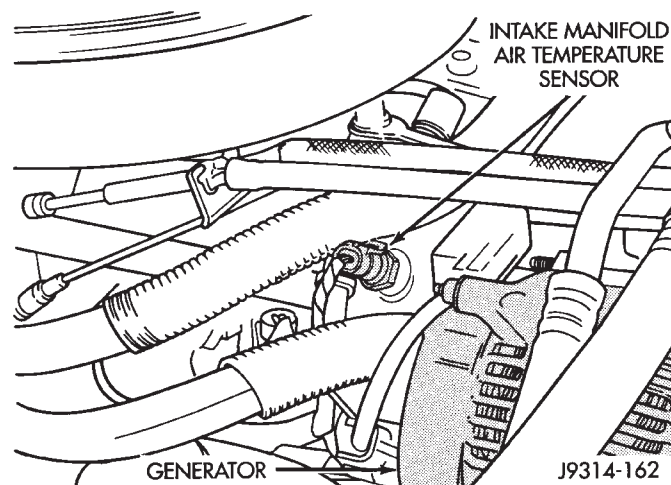

Fig. 57 Air Temperature Sensor—5.2L/5.9L Engines
(1) Disconnect the wire harness connector from the intake manifold air temperature sensor (Fig. 57).